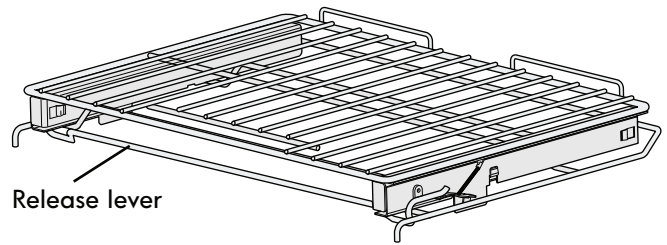

Figure 20: Extensible Glide Rack with release lever in locked position
1. Lift up on the release lever located across the lower front of the rack, as shown in Figure 20.